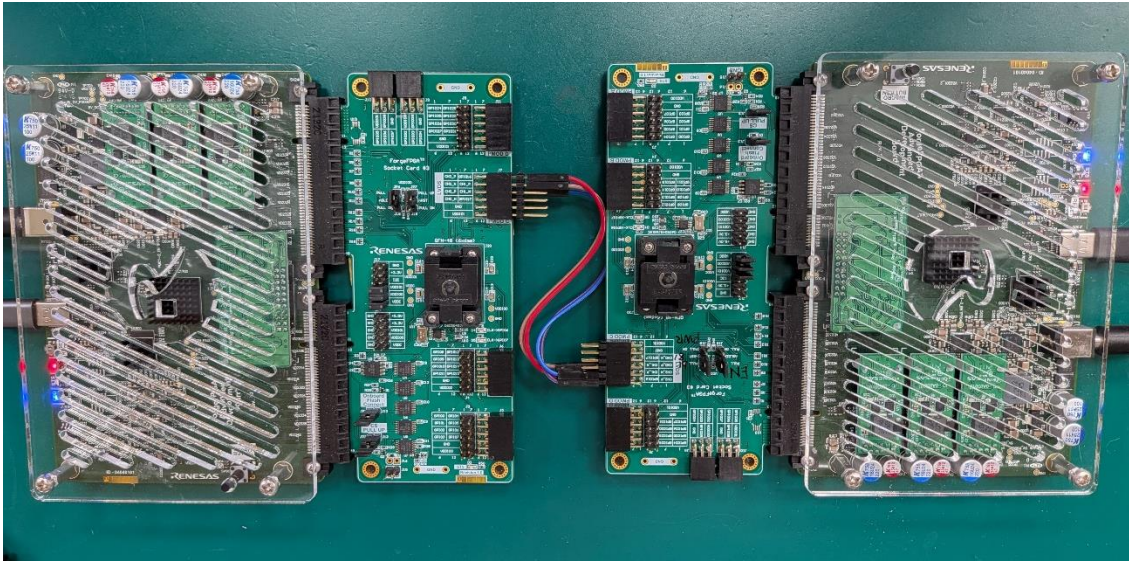

Figure 7. Connection between Setup A and Setup B
Setup A and Setup B are connected to one another through cable wires connected between the LVDS PMOD header (see Figure 7).
11. Assign a button at GPIO2 to control the GPIOs inputs and outputs for data transfer (Tx and Rx). GPIO2 must also be connected to both Setup A and Setup B with a wire (see Figure 7 for setup).